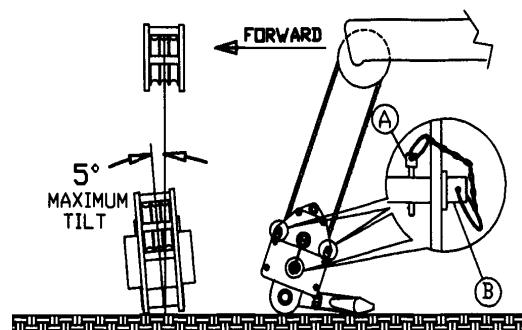

Figure 2-12 Quick-Reeve Load Block Pins
3. Place Quick-Reeve block in the folded position in line and forward of the boom as illustrated in Figure 2-12.
4. Remove Rope Guard Keeper Pins at (A) - Figure 2-12.
5. Remove Rope Guard Pins (B).
7. Remove Rope Guard Keeper Pins (A), see Figure 2-12.
8. Remove Rope Guard Keeper Pins (B).
13. Replace Rope Guard Pins (B).
14. Replace Rope Guard Keeper Pins (A).